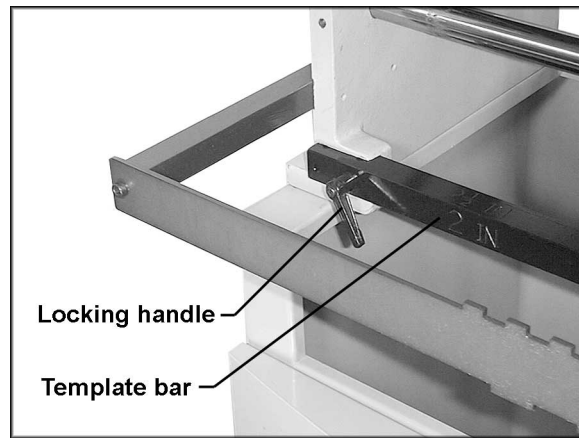

Figure 15
3. Loosen and remove the locking handles on each end of the template bar (Figure 15).